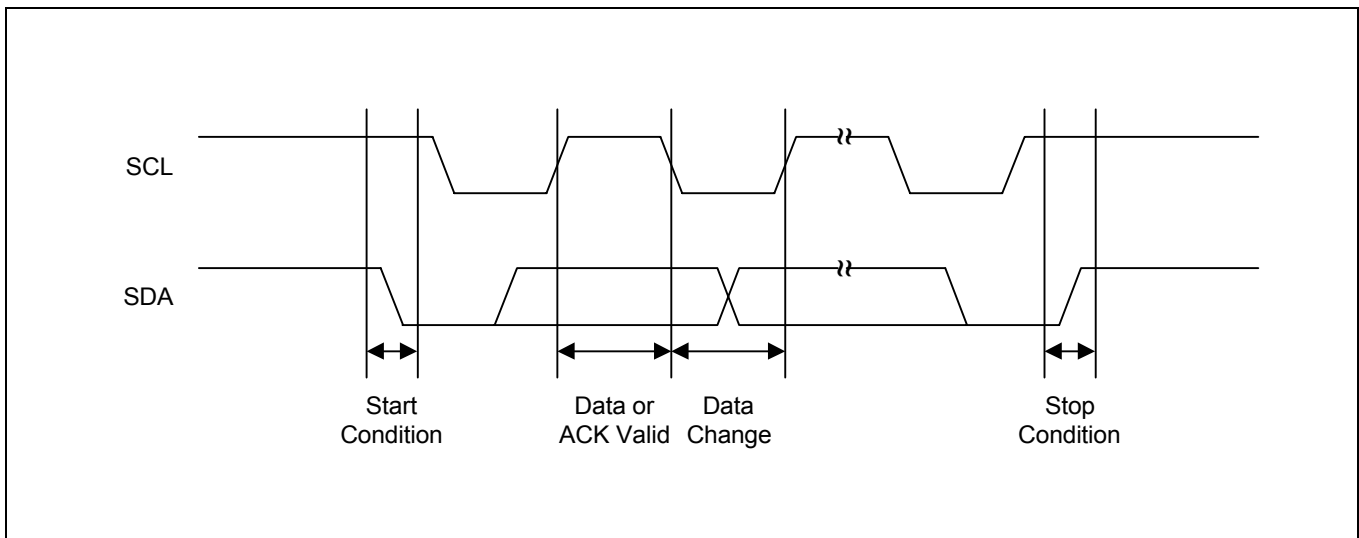

Figure 1-7. Data Transmission Sequence
- **Stop condition:** A stop condition is initiated by a Low-to-High transition of the SDA line while SCL remains High level. All bus operations must be completed by a stop condition (see Figure 1-7).